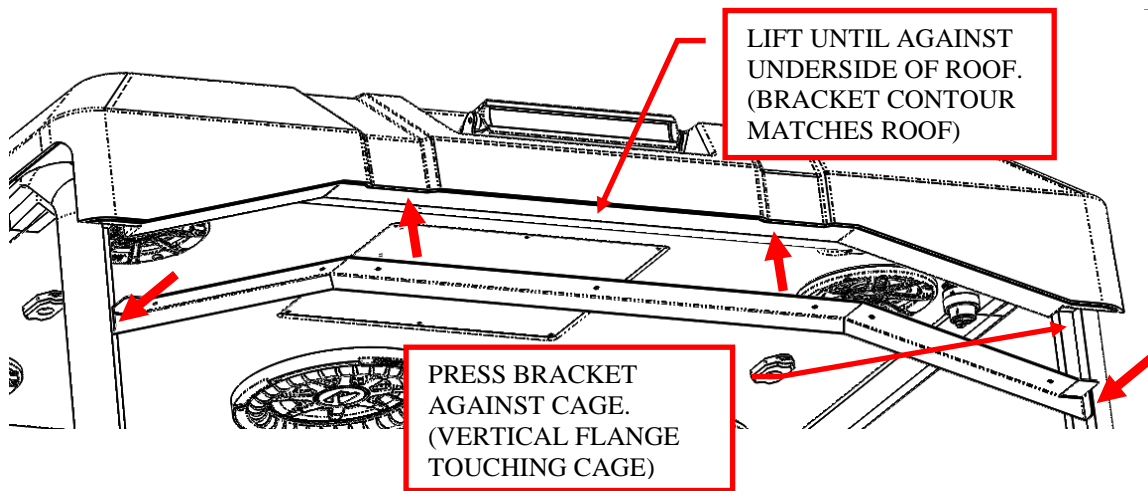

Figure 21: Move the windshield bracket into position.
25. Raise the windshield bracket into position against the underside of the roof along the back edge. Make sure the horizontal flange of the bracket is pressed against the bottom edge of the roof and the vertical flange of the bracket is pressed against the vertical flange on the back of the cage. See Figure 21.